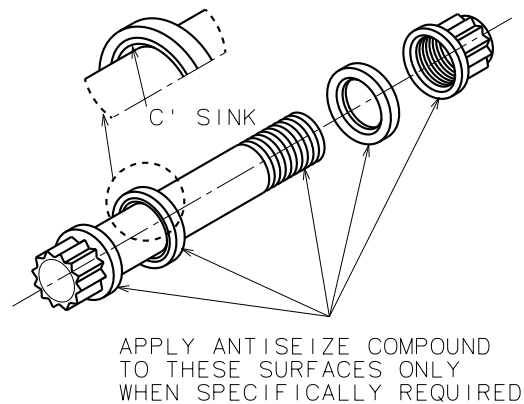

Figure 312 - Wheel Tie Bolts
NOTE: All Torque values listed on Cleveland Products are considered to be “DRY TORQUE” values unless a thread lubricant is specified conforming to either SAE AMS2518 (ref MIL-T-5544) or MIL-PRF-83483 (Molydisulphide) and applied to all friction surfaces as shown in Figure 312. Only use the thread lubricant specified for your wheel assembly.
- 2 Install bolts through brake disc and wheel halves. Both plain and countersunk washers may be used. Some designs use bolts that have a radius between the head and shank, which requires the countersunk washers. Inspect bolts and washers prior to assembly. (Ref. Figure 312). Properly oriented washers with countersunk surfaces to sit flush against the bolt head. Install washers and nuts on bolts (bolt heads are to be on brake disc side of wheel). Apply torque to the nut while holding the bolt head. Snug all the nuts in a crisscross pattern to seat the flange. Then torque the nuts to final value specified on wheel casting or nameplate, using a crisscross pattern until all nuts are properly torqued. Verify all bolts have been torqued properly by going around the bolt pattern with a torque wrench. Do not use power tools for the installation of nuts and bolts.